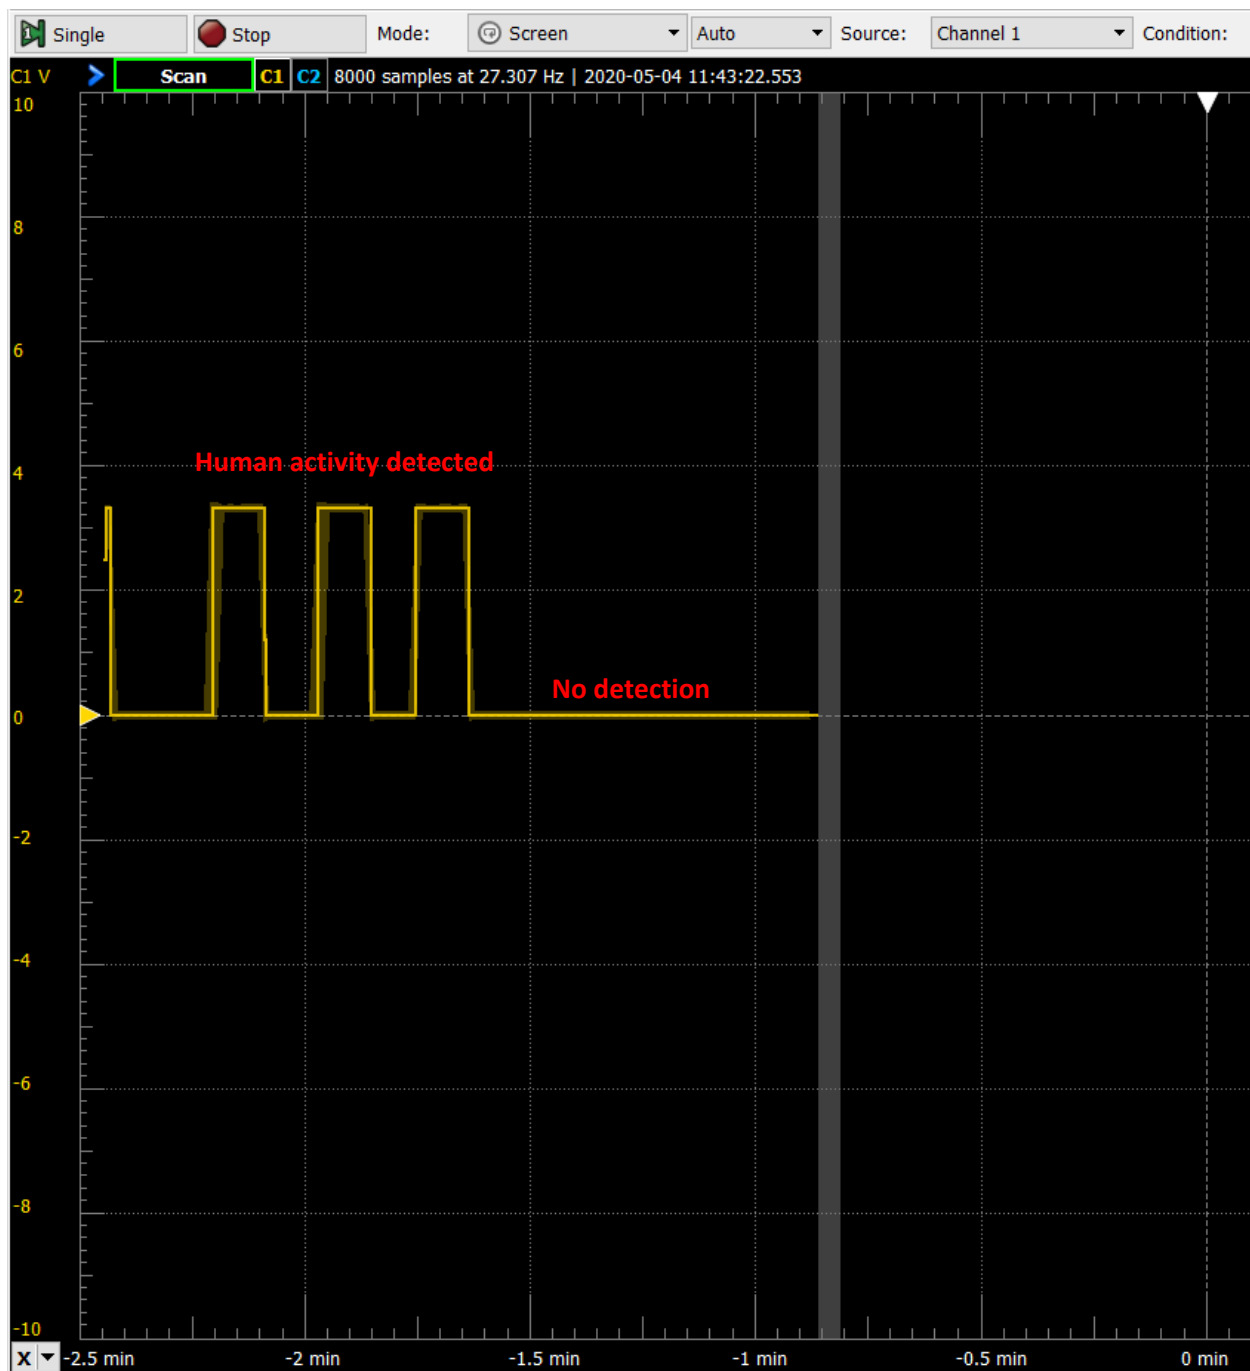

Figure 4: Single trigger output
- In WaveForms, turn the supply line on to +5V, this is the operating voltage specified in the sensors data sheet. Then, connect the oscilloscope line. Look at figures 4&5 for more information on the output